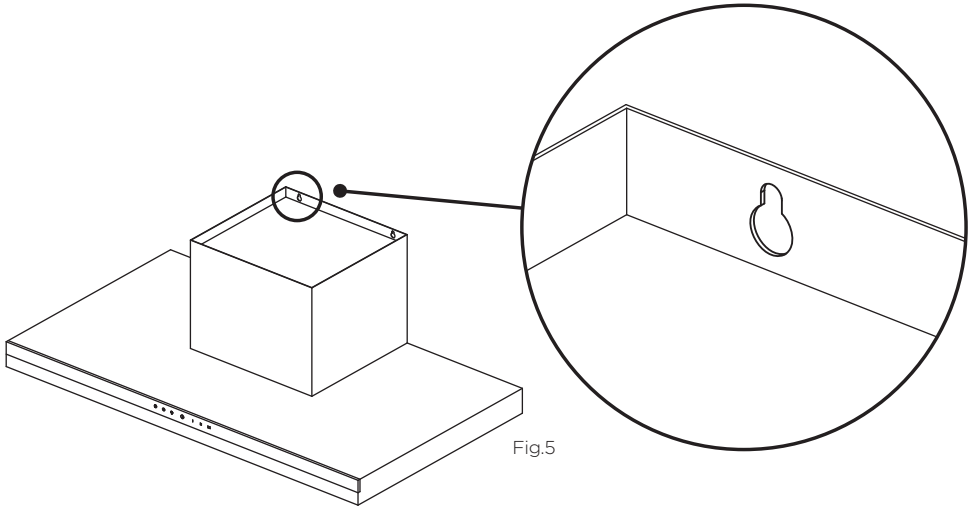

Fig.5
- Hang hood off upper hood mounting screws with 2 mm gap. Hang off the keyhole attachment points on the back of the hood (see Fig.5). Tighten screws.